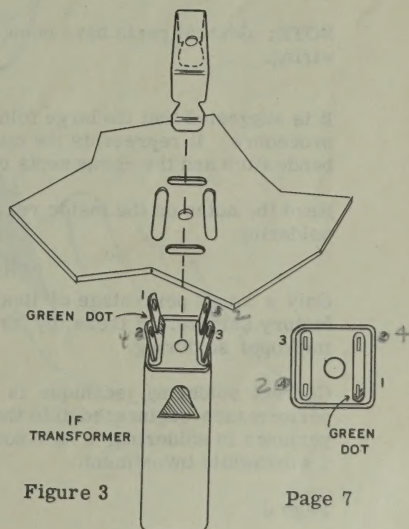

Figure 3
- (✓) Mount an IF transformer from top of chassis in position F. Green dot should be located nearest socket E. Hold transformer in place and press IF transformer mounting clip over it from inside chassis as shown in Figure 3. Clip should engage cutouts on opposite sides of transformer.